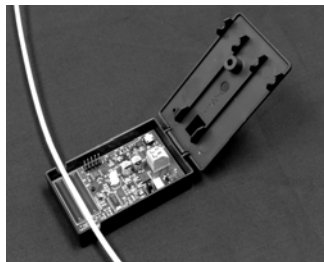

Figure 8
1. Remove the screw from the cover of the safety control shutoff. Open the hinged cover and install the shutoff onto the furnace blower common wire. (See Figure 8.)